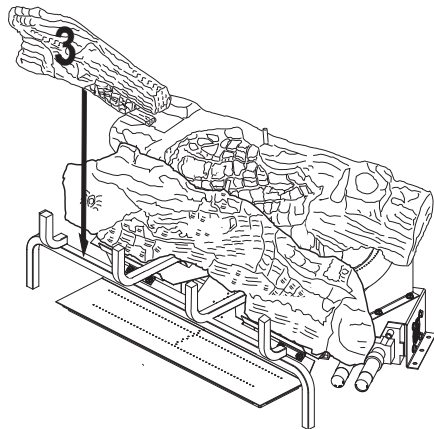

Figure 40 - Installing Log #3
3. Place the front left log (#3) onto the base assembly between the middle log (#2) and the grate fingers. The back of the front left log (#3) will rest against the front of the middle log (#2). The notch at the end of the front left log (#3) will fit around the grate bar. See **Figure 40**.